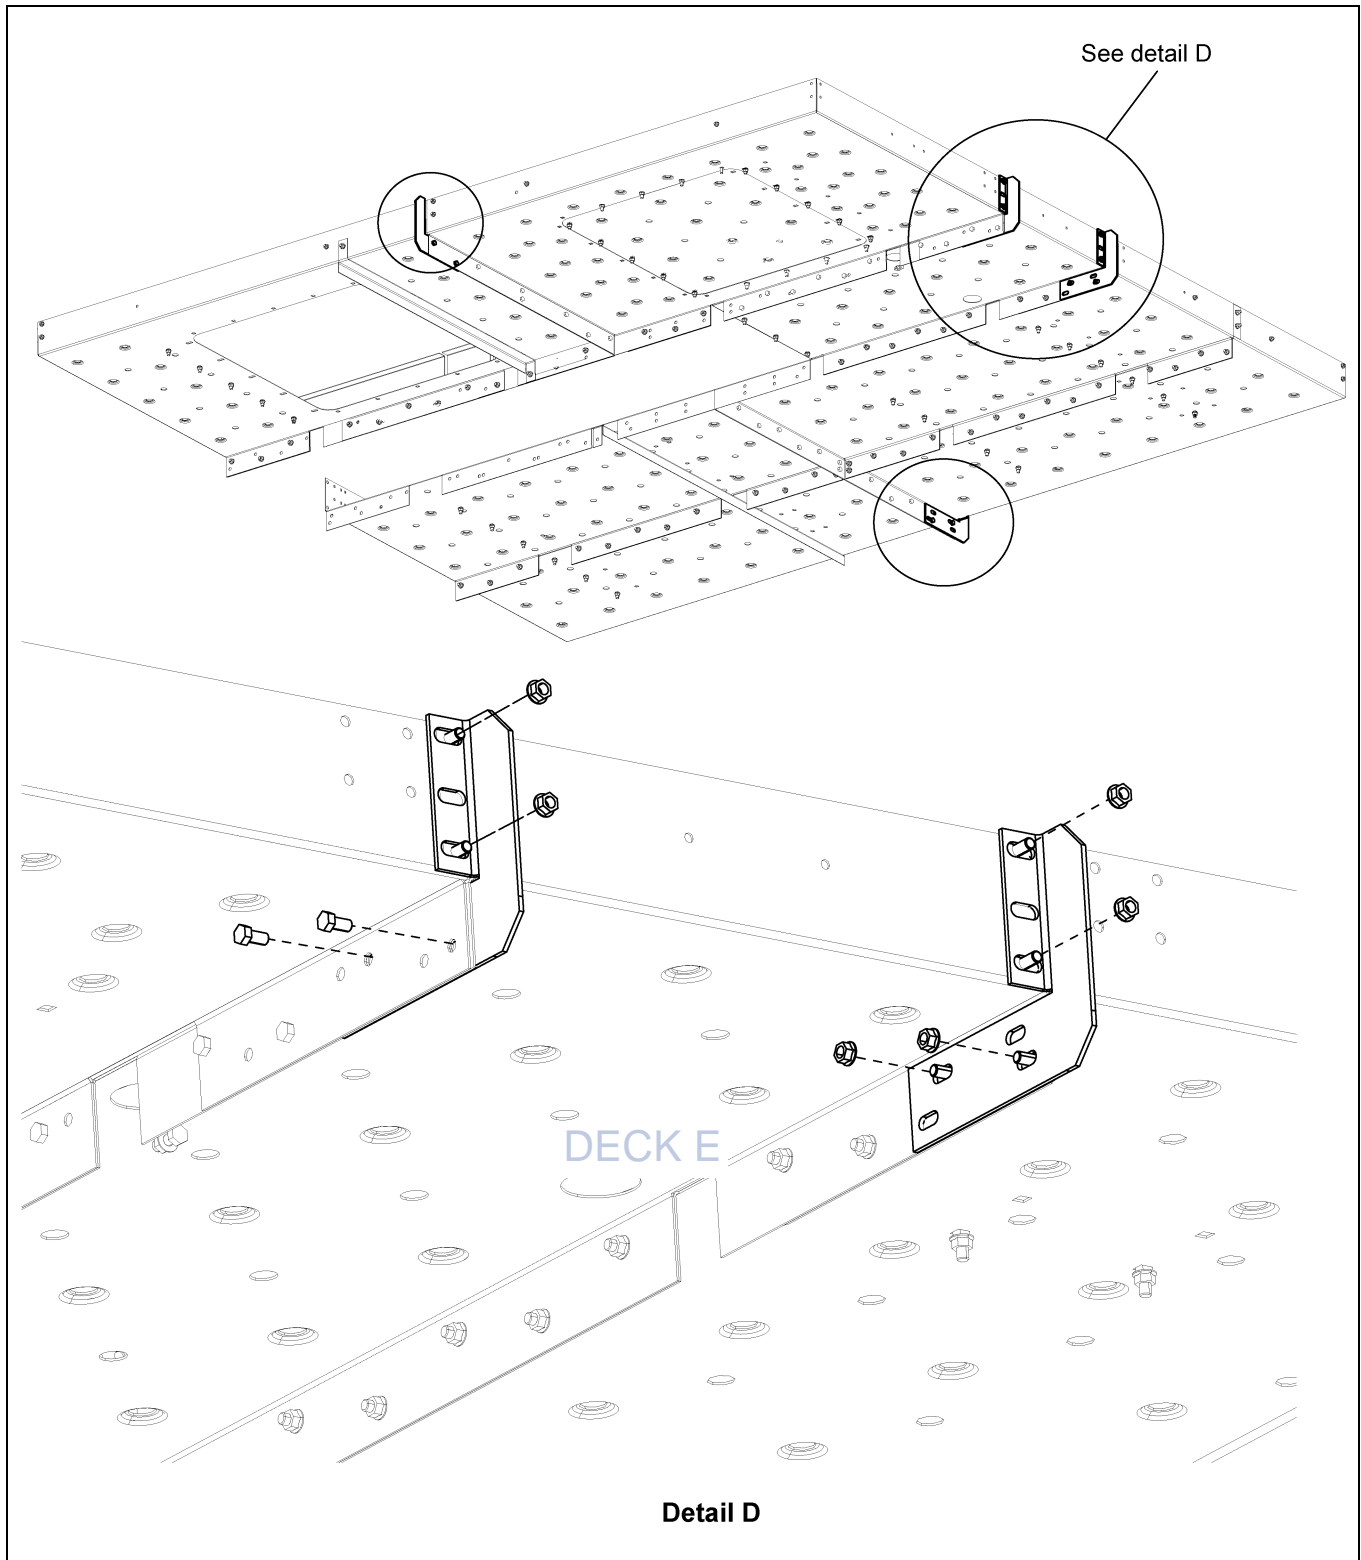

Figure 10C
1. Attach two (2) HP handrail supports (HP1648HSH) to Deck E using 3/8" x 3/4" bolts and nuts. (See Figure 10C.) **NOTE:** The supports that attach to Deck A and Deck F attach at the same time as the platform post.